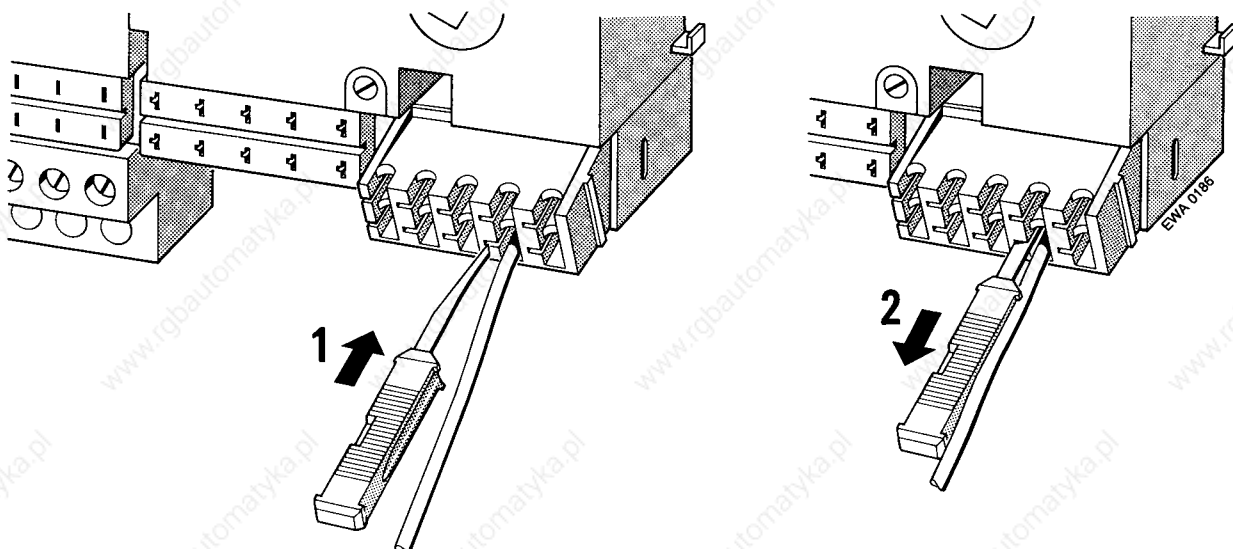

Figure 3-10. Disconnecting a Terminal
1. Position the terminal block as is shown in Figure 3-10.